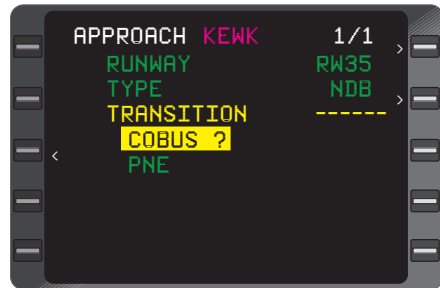

Figure 3-56
8. Line Select Key - DEPRESS to position cursor over the desired **TRANSITION** if required. (Figure 3-56) If there is only one transition for the desired approach the system automatically loads the transition and the WPTs of the approach are displayed. Go to step 10.